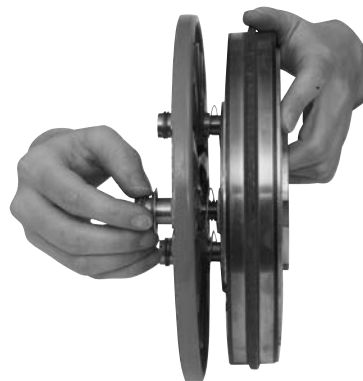

Figure 9
**Note:** Apply Grade "AA" Loctite® Sealant on pin threads. (Figure 9)